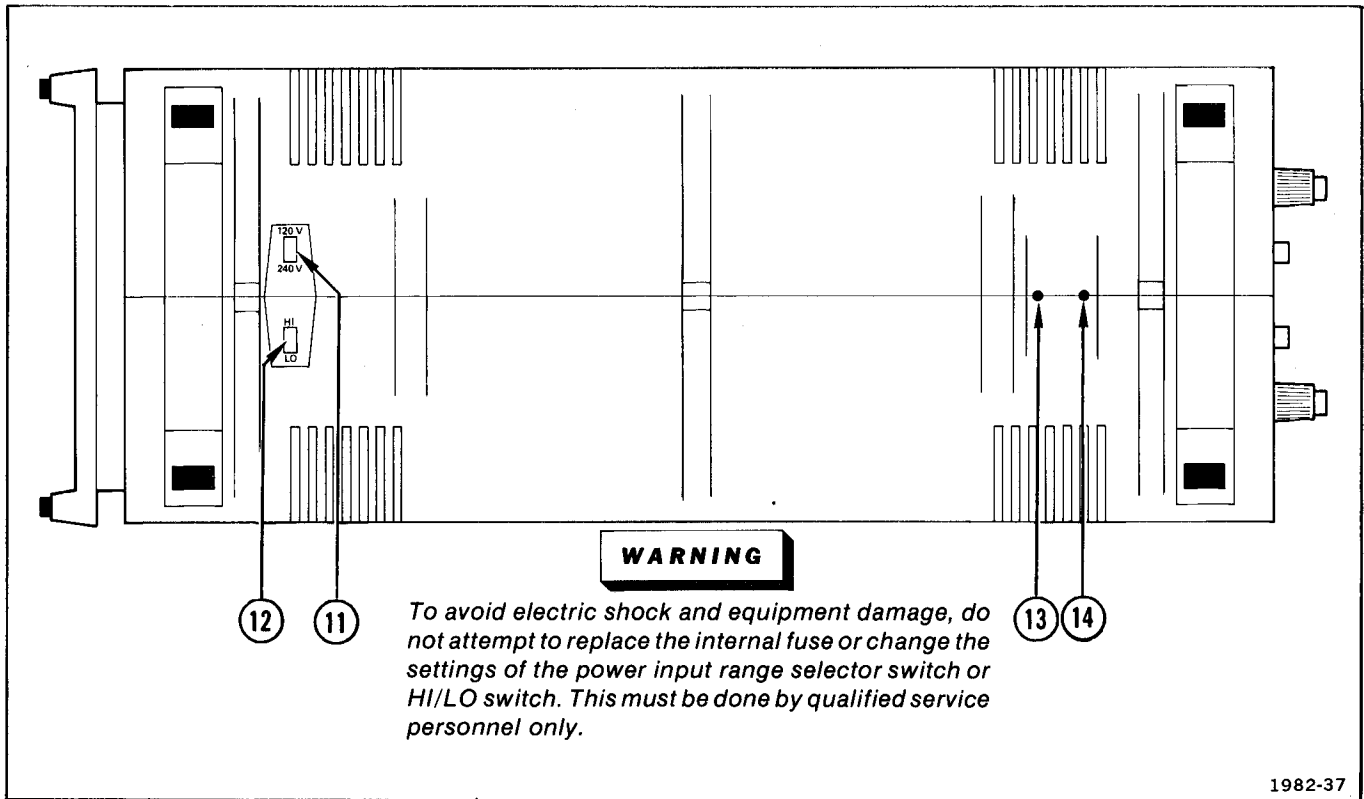
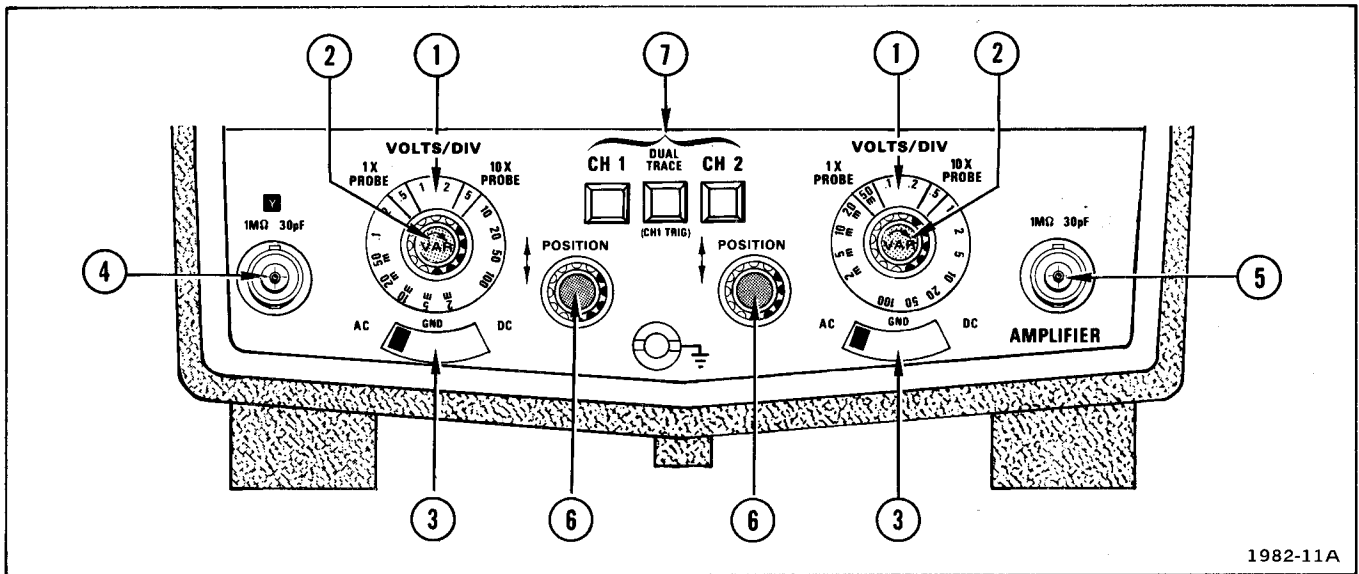

Fig. 2-4. Bottom of cabinet.
Fig. 2-5. Vertical amplifier front panel controls.
**Bottom of Cabinet—T921/T922 only (see Fig. 2-4)**
- ⑪ **120 V/240 V**—Screwdriver actuated switch selects either 120 V or 240 V nominal power input voltage.
- ⑫ **HI/LO**—Screwdriver actuated switch selects either high or low nominal power-input-voltage regulating range: LO selects 100 V or 220 V and HI selects 120 V or 240 V.
- ⑬ **CH 1 DC BAL**—Screwdriver adjustment. When properly adjusted, prevents trace shift when switching between adjacent positions of the CH 1 VOLTS/DIV switch.
- ⑭ **CH 2 DC BAL**—Screwdriver adjustment. When properly adjusted, prevents trace shift when switching between adjacent positions of the CH 2 VOLTS/DIV switch.
**Front Panel (Fig. 2-5)**
- ① **VOLTS/DIV**—Selects the vertical deflection factor in a 1-2-5 sequence (VAR control must be in detent position to obtain the indicated deflection factors). Read the correct deflection factor for a 1X probe from the 1X position and a 10X probe from the 10X position.
- ② **VAR**—Provides continuously variable uncalibrated deflection factors between the calibrated steps of the VOLTS/DIV switches. Extends the maximum deflection factor to 25 V/div in the 10 V position. Detent position provides calibrated VOLTS/DIV deflection factors.
- ③ **Input Coupling**—Selects the method of coupling the input signal to the vertical input signal amplifier.